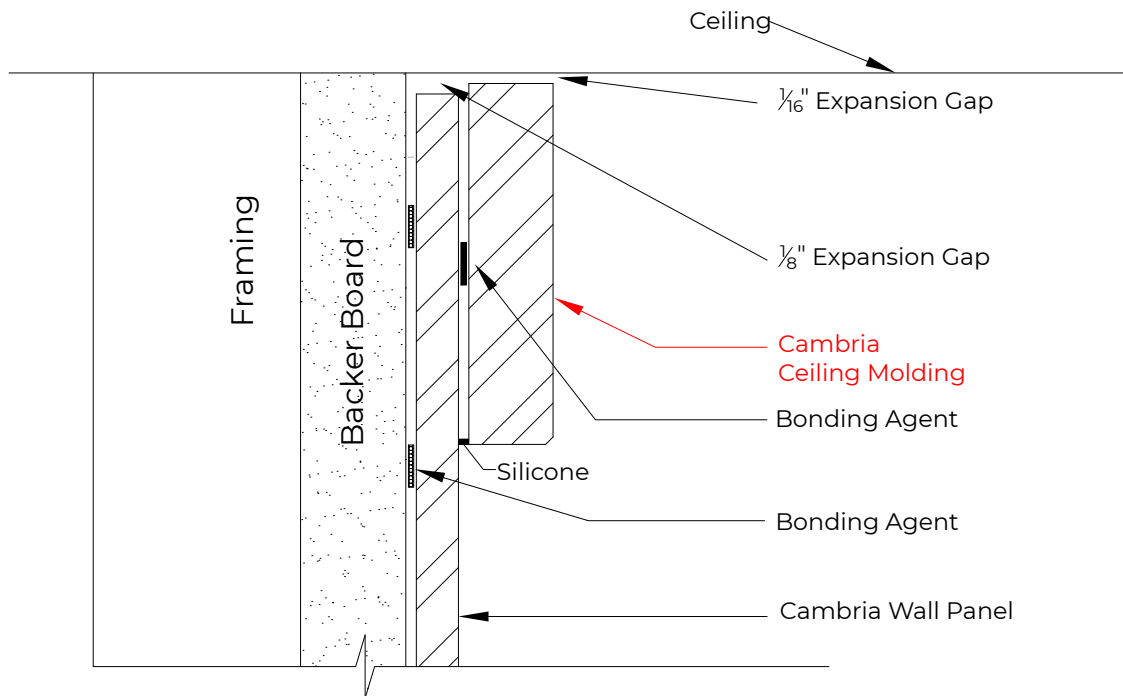

FIGURE 8
- There must be a $\frac{1}{16}$ " gap between the ceiling and the ceiling molding to allow for expansion. See Figure 8.
- Apply a thin bead of silicone along the seam of the ceiling molding and the Cambria panel for the entire length of the ceiling molding. See Figure 8.